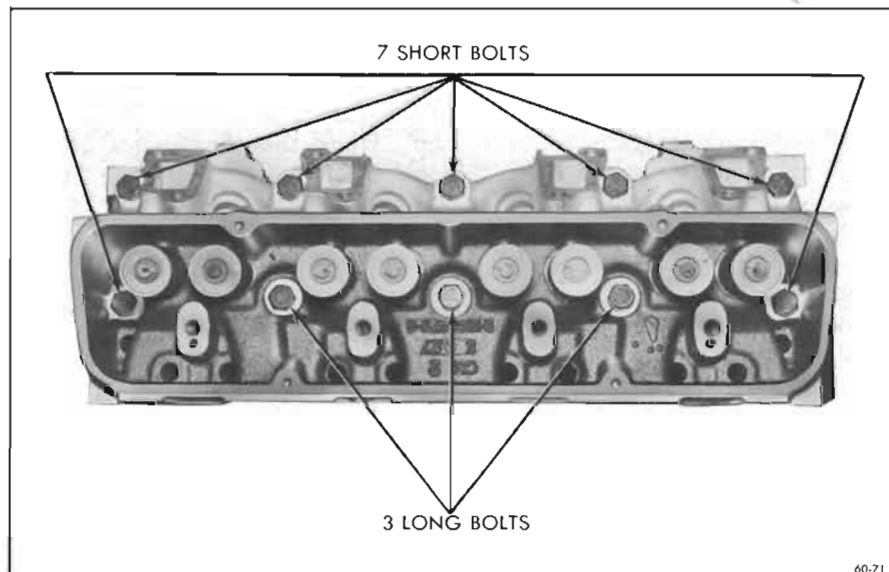

Figure 60-71—Cylinder Head Bolt Installation
5. Clean and lubricate the head bolts with "Perfect Seal" sealing compound. Install bolts as shown in Figure 60-71.